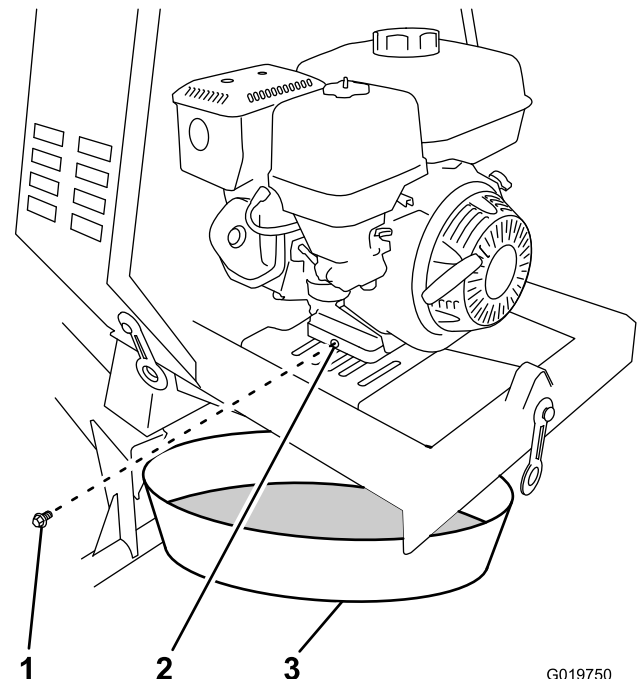

Figure 45
3. Place a drain pan under the oil drain hole of the engine (Figure 45).
4. Remove the drain plug and catch the oil in the oil drain pan (Figure 45).
- When the oil has drained completely, install the drain plug with a new washer (Figure 45).